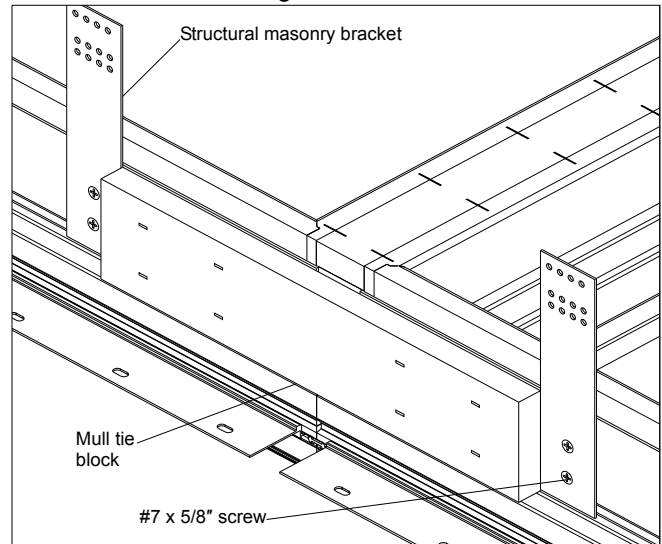

Figure 10
6. Attach structural brackets on each side of the mullion using two #7 x 5/8" screws provided. Structural brackets should be installed within 6" of mull as shown in figure 10.